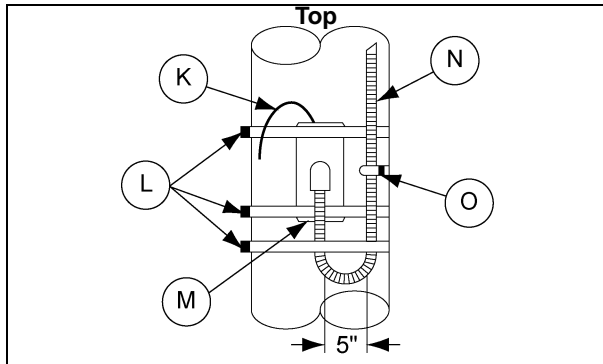
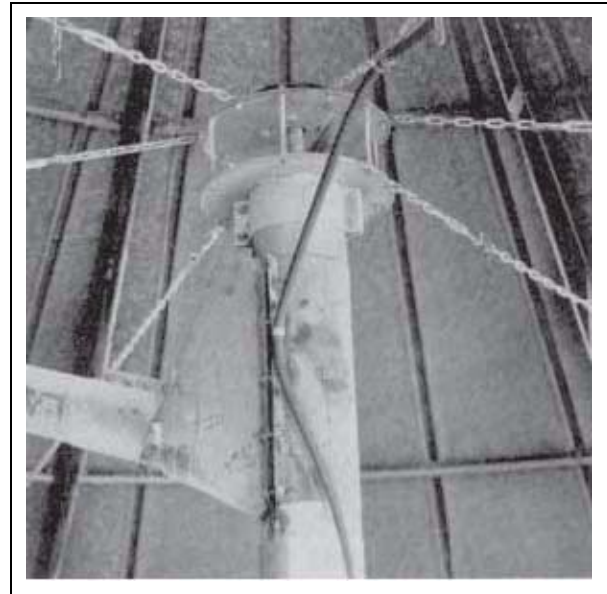

Figure 16F
Figure 16G
7. Mount the Calc-U-Dri sensor in the vertical tube, secure it with the two (2) clamping straps, excess clamp material can be cut off. The flow of grain must follow the arrows on the sensor decal. Be sure the sensor block seats fully into the opening of the tube, the 90° conduit connector will be pointed down. Bend the conduit in a tight loop (do not kink it) of about 5" diameter. Secure it to the discharge tube with a nylon cable clamp and screw in the area where the flighting is cut-out. Also, secure the drip loop, below the sensor, to the vertical tube with a clamp strap. (See Figure 16F and Figure 16G.) Fasten the grounding strap from the Calc-U-Dri sensor to the discharge tube with a self-tapping screw through the connector on the ground strap and into the tube where the flighting has been removed. Leave at least 2" between the sensor block and the ground screw.